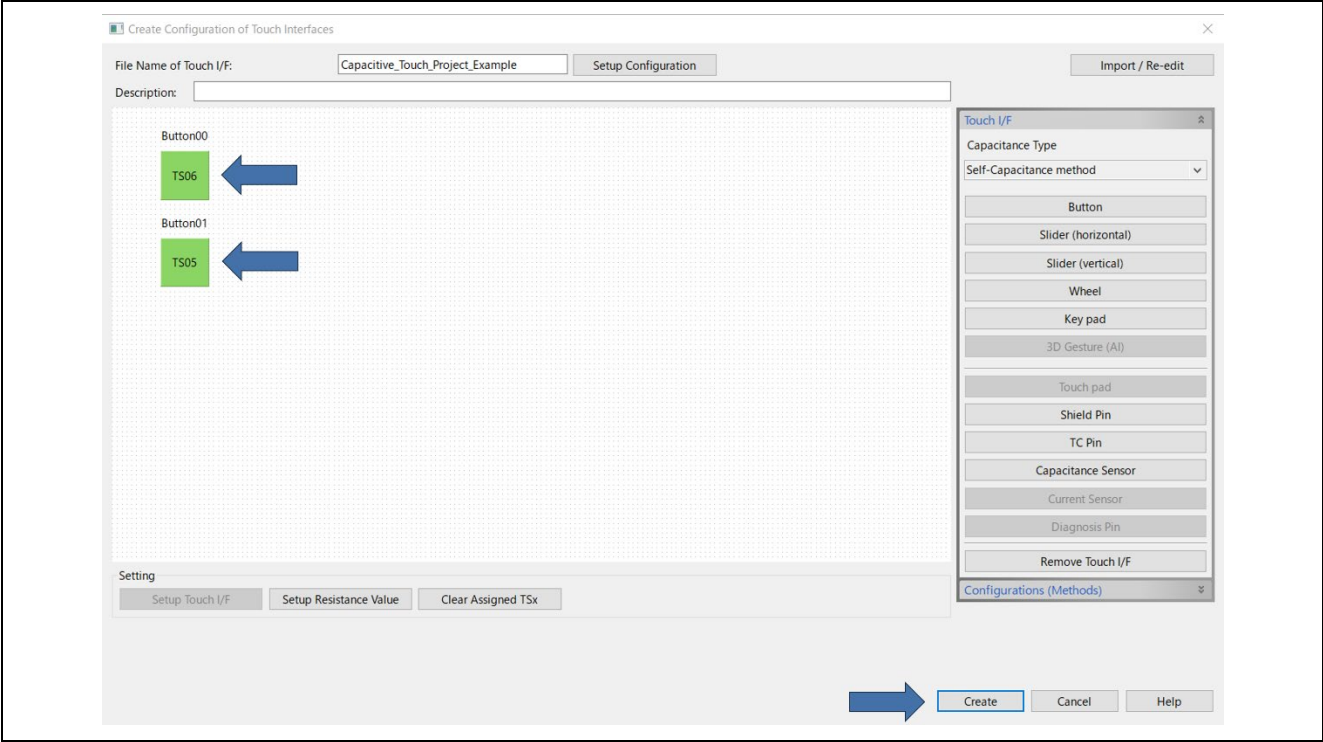

Figure 8-10 Touch Interface Configuration after the Settings are Complete
- 5. After the settings for the elements of the touch interface are complete, the color of the electrodes changes to green as shown in Figure 8-10. Click on [Create] at this point.